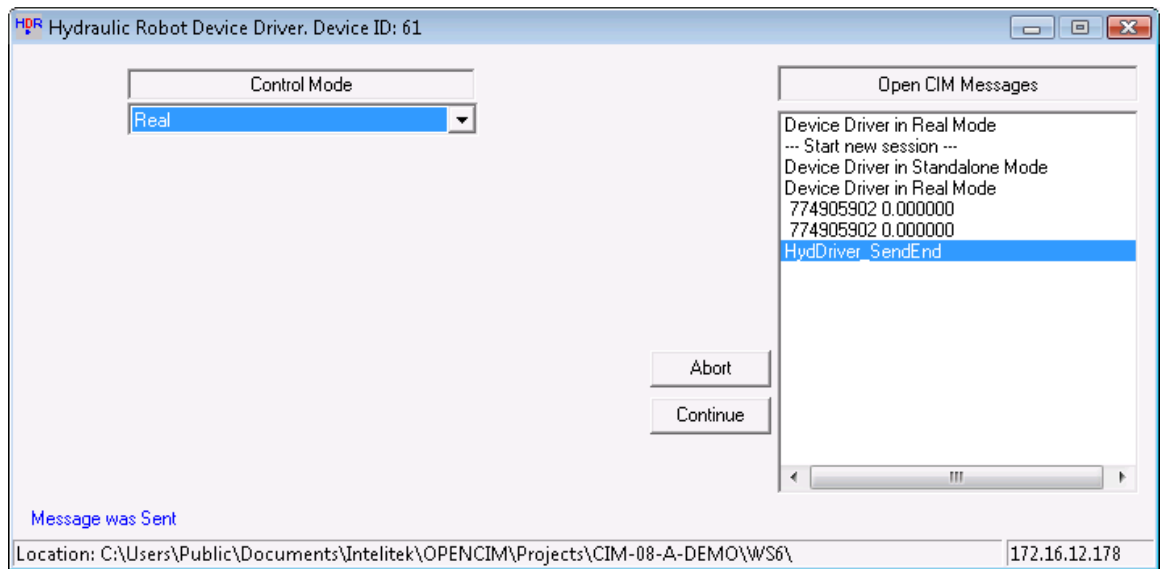

Figure 157: Hydraulic Robot Device Driver
3. From the windows system tray select **Hydraulic Robot Device Driver**. The Hydraulic Robot Device Driver window is displayed, as shown in Figure 157: Hydraulic Robot Device Driver.